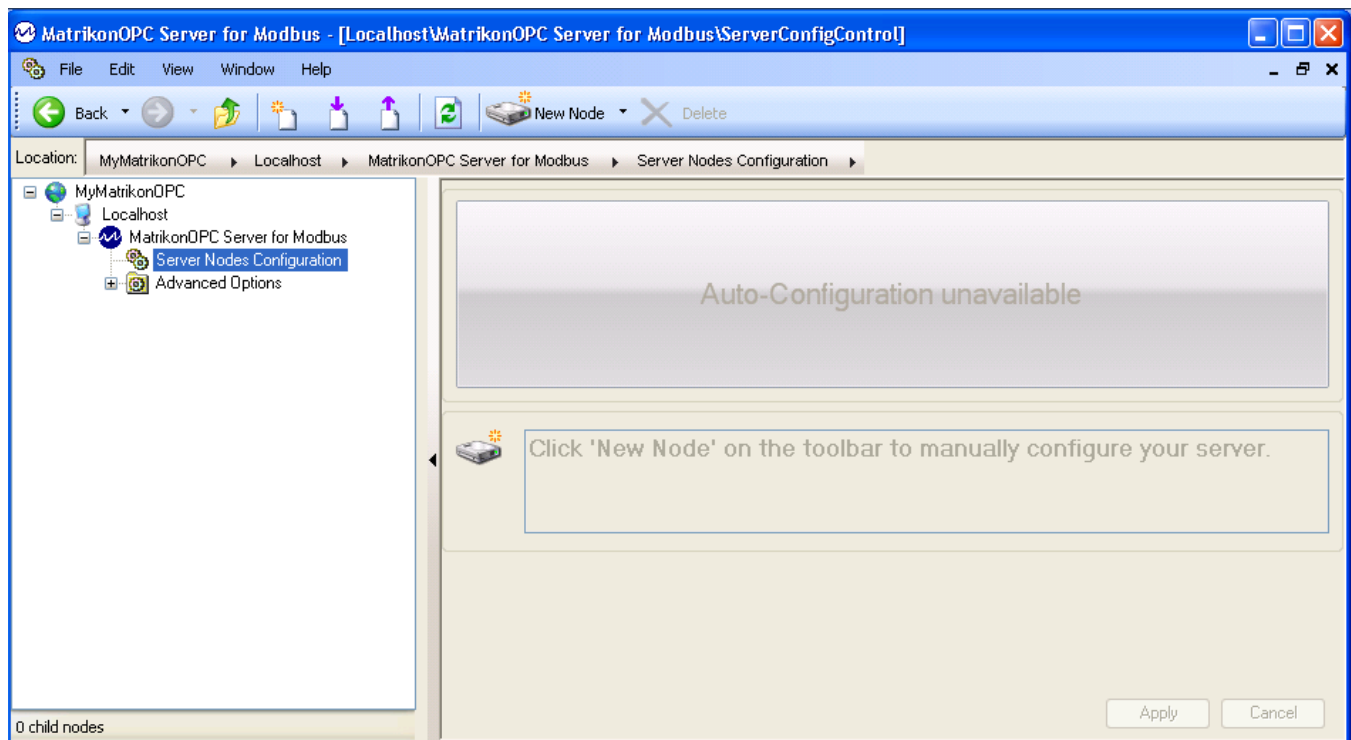

Figure 1 - Configuration Window
2. The **Configuration** window appears and the **Server Nodes Configuration** pane (Figure 1) is displayed on the left side of the window.